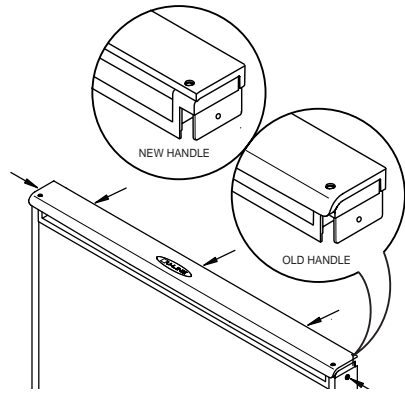

Figure 2
- c. Remove the three screws located on the back of the handle (see Figure 2).